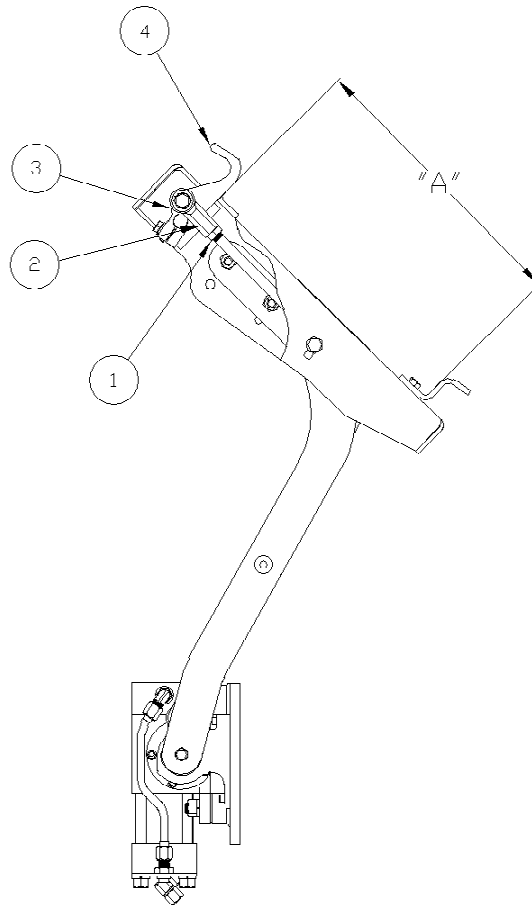

Figure O-2
Check the distance (**A**) (figure O-2) between the saddle and lower hooks when the lifter faceplate is in the **FULL DUMP** position. Maintain this dimension at approximately **14 1/4"** for the proper "locking" of the cart to the lifter. To adjust the setting, loosen the jam nuts (1) on the spherical rod ends (2). Remove the bolts (3) that hold the rod ends to the lower hooks (4). Screw the rod ends in or out as required to obtain the correct dimension at (A). Replace the bolts (3) and tighten the jam nuts (1).
CAUTION: The distance in Figure O-2 is an arbitrary figure based on information furnished by cart manufacturers. It is the responsibility of the owner / operator of this equipment to adjust these dimensions to be compatible with his specific application.